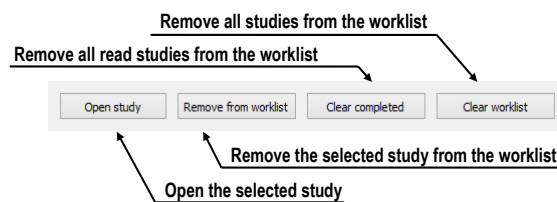

Figure 130 – Manage part of the Patient worklist tab
Your currently defined patient worklist is available at any time on the **Worklist** tab of the **Search studies** dialog. On the tab, you can select from the following operations (see Figure 130) pertaining to the patient worklist studies:
- Removing a selected study from the worklist (by clicking the **Remove** button, see Figure 130).